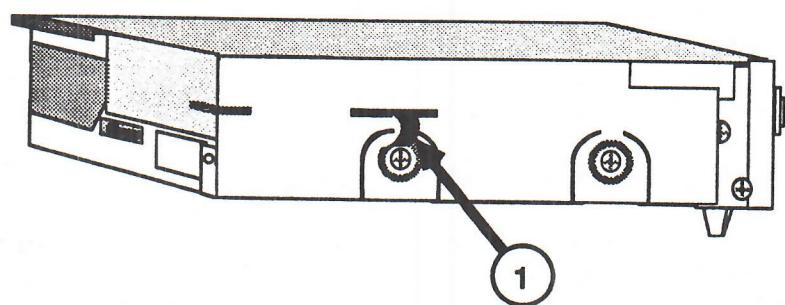

FIGURE 7
- b) Position the ground clip over the screwhole and replace the screw to secure it to the disk drive chassis. Slide the top of the clip into the slot as shown in Figure 7, #1.